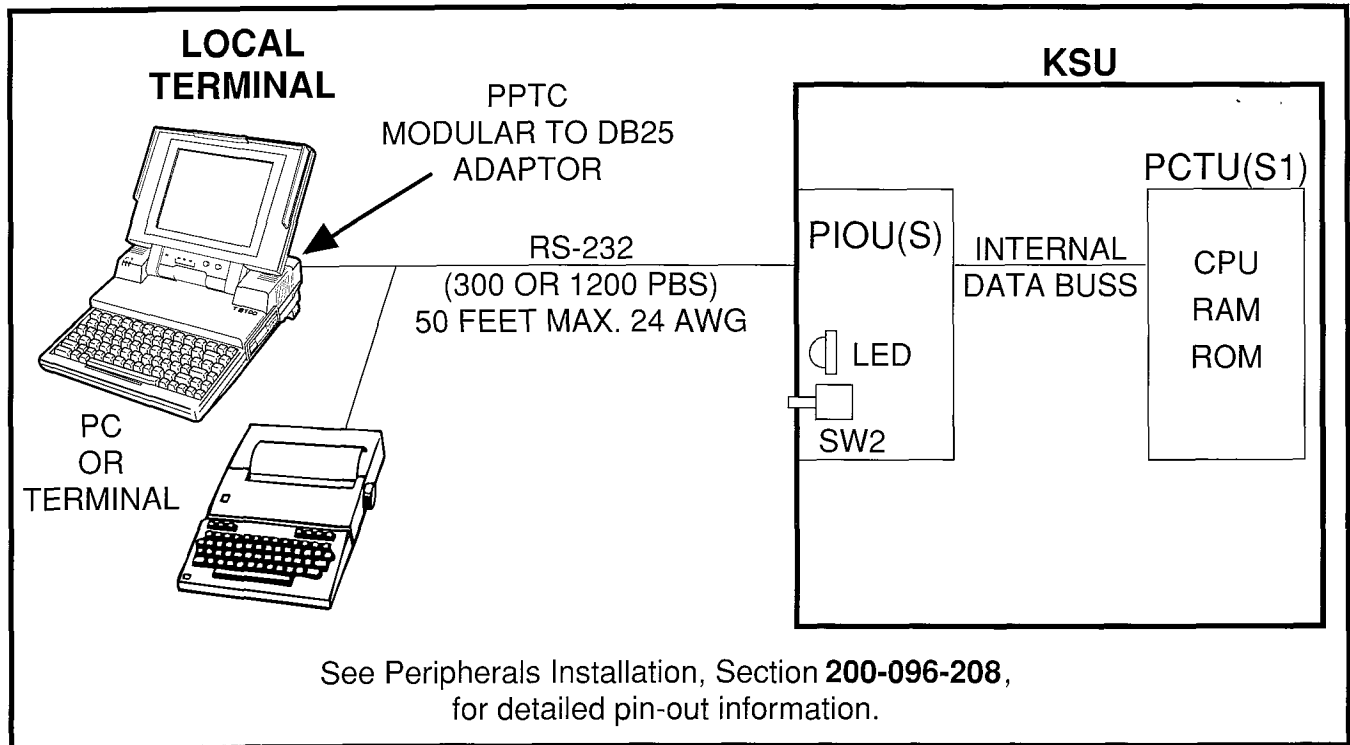

FIGURE 2—LOCAL TERMINAL CONNECTION
5.02 The local terminal must have an EIA RS-232 interface, communicate in ASCII code at 300 or 1200 bps, have a standard typewriter-type keyboard, and display data via a CRT display or printer. A personal computer capable of emulating the described terminal may also be used (see Figure 2 and Paragraph 15).
5.11 Refer to Figure 2 and verify that the local terminal is connected and set-up as follows: